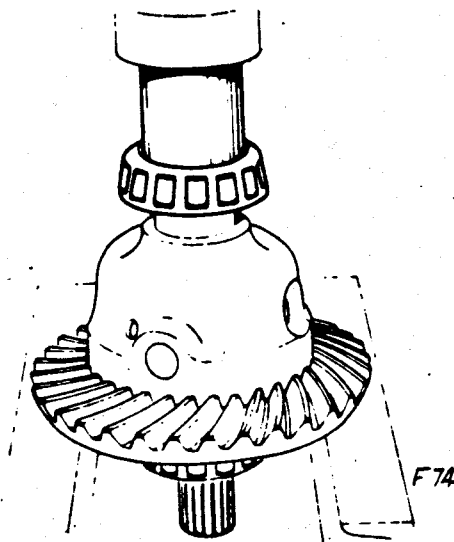

Fig. 39.
- a. The differential assembly. (as shown in Fig. 39 )